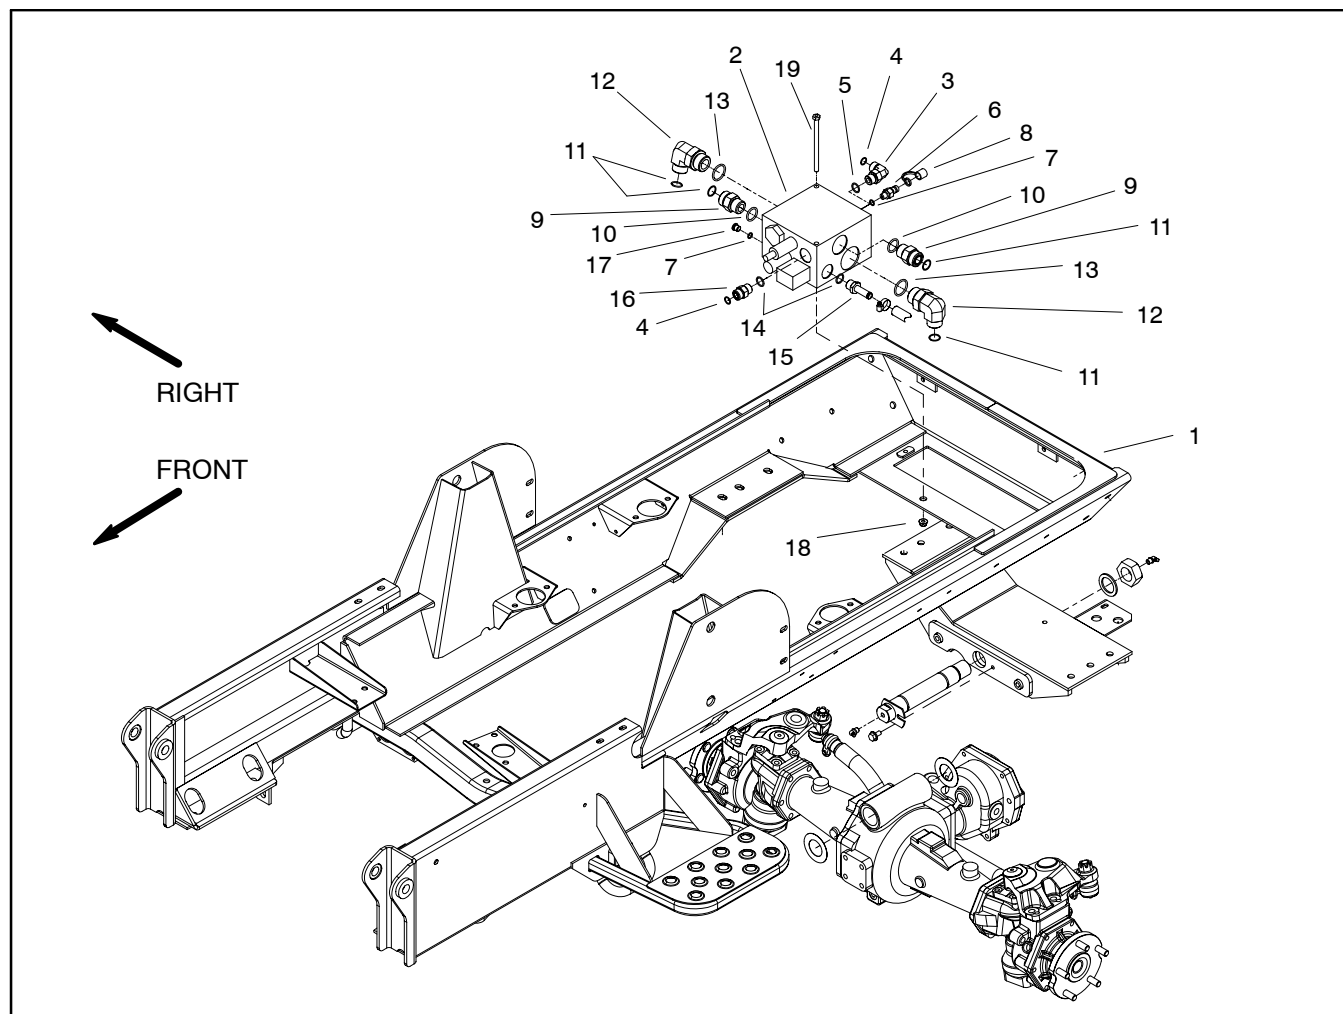

Figure 53
5. Remove hydraulic manifold from the frame using Figure 53 as guide.
1. Install hydraulic manifold to the frame using Figure 53 as guide.